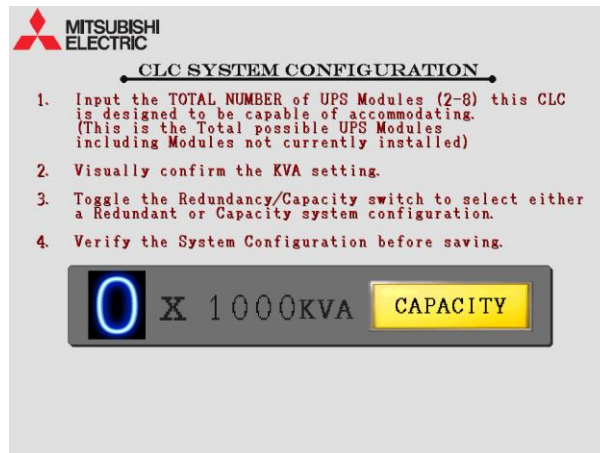

Figure 2: Setup Screen 1
**\*Note:** Pressing the Initialize CLC Stored Configuration icon will reset the monitor setup complete flag and return display to Setup Screen 1 (Figure 2).